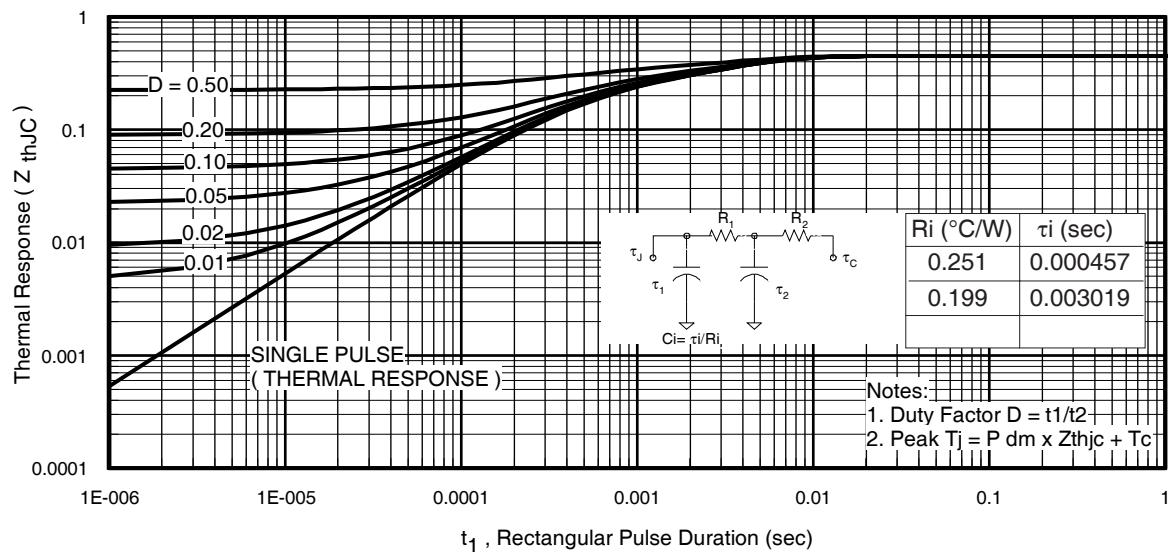
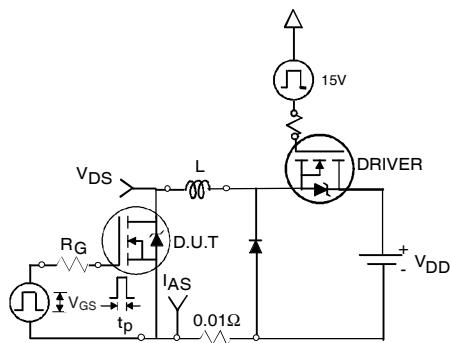

Fig 11. Maximum Effective Transient Thermal Impedance, Junction-to-Case
Fig 12a. Unclamped Inductive Test Circuit
- ① Repetitive rating; pulse width limited by max. junction temperature. (See fig. 11).
- ② Limited by $T_{J\text{max}}$, starting $T_J = 25^\circ\text{C}$, $L=0.11\text{mH}$, $R_G = 25\Omega$, $I_{AS} = 75\text{A}$, $V_{\text{GS}} = 10\text{V}$. Part not recommended for use above this value.
- ③ $I_{SD} \leq 75\text{A}$, $di/dt \leq 340\text{A}/\mu\text{s}$, $V_{\text{DD}} \leq V_{(\text{BR})\text{DSS}}$, $T_J \leq 175^\circ\text{C}$.
- ④ Pulse width $\leq 1.0\text{ms}$; duty cycle $\leq 2\%$.
- ⑤ $C_{\text{oss eff.}}$ is a fixed capacitance that gives the same charging time as C_{oss} while V_{DS} is rising from 0 to 80% V_{DSS} .
- ⑥ Limited by $T_{J\text{max}}$, see Fig.12a, 12b, 15, 16 for typical repetitive avalanche performance.
- ⑦ This value determined from sample failure population. 100% tested to this value in production.
- ⑧ This is applied to D²Pak, when mounted on 1" square PCB (FR-4 or G-10 Material). For recommended footprint and soldering techniques refer to application note #AN-994.
- ⑨ R_0 is measured at T_J of approximately 90°C .
3. Equation below based on circuit and waveforms shown in Figures 12a, 12b.
- $Z_{thJC}(D, t_{av})$ = Transient thermal resistance, see figure 11